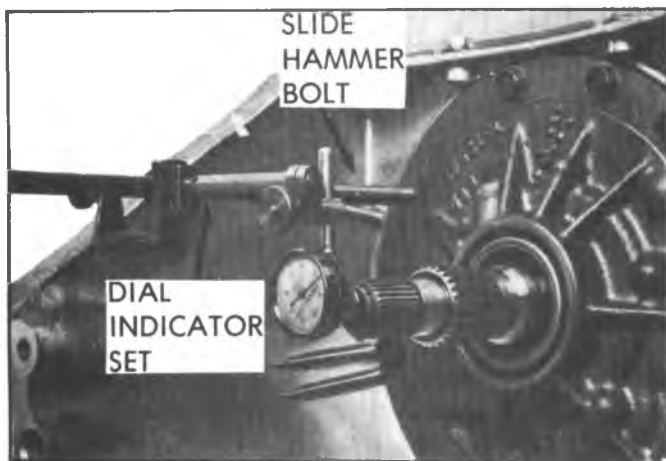

Fig. 99N--Checking End Play for Proper Thrust Washer Selection
- b. Position transmission so that output shaft points down. Install a dial indicator as shown in Figure 99N. Zero the indicator.